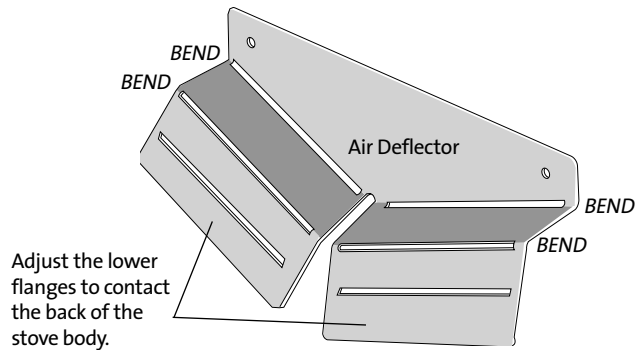

Figure 21. Air Deflector orientation.
2. **Attach the Air Deflector to Rear Shroud: See figs. 21 and 23 /#3.** Use pliers to bend the deflector tabs at the perforation lines as shown. Attach the deflector to the interior side of the rear shroud using two #8 X 12 sheet metal screws from the exterior side.
Use pliers to bend back the long, vertical flange to allow the bracket to fit flush against the back of the stove. (Fig. 21 and 23/#2) to the two center studs on the back of the stove, oriented as shown. Secure with two M6 flange nuts.
Attach the control box to either side of the rear shroud using a 1/4" socket driver and one #8 x 12 sheet metal screw as shown in fig. 21.